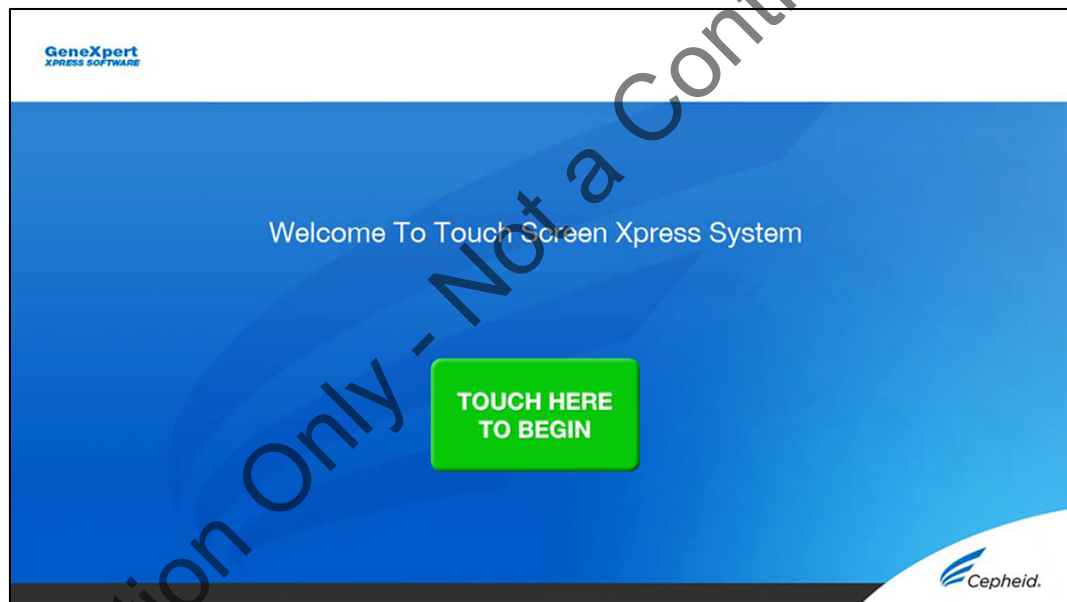

Figure 3. Welcome Screen
1. On the **Welcome** screen, touch the **TOUCH HERE TO BEGIN** button (see Figure 3).